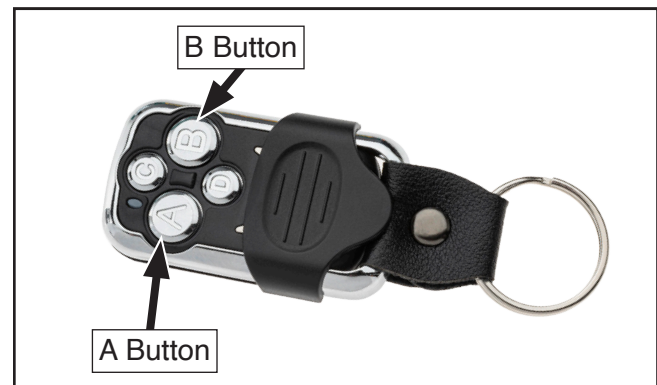

Figure 19. Remote control components.
7. Press A button on remote control to turn motor **ON** (see **Figure 19**). Motor should run smoothly with little or no vibration or rubbing noises.
8. Press B button to turn motor **OFF** (see **Figure 19**).